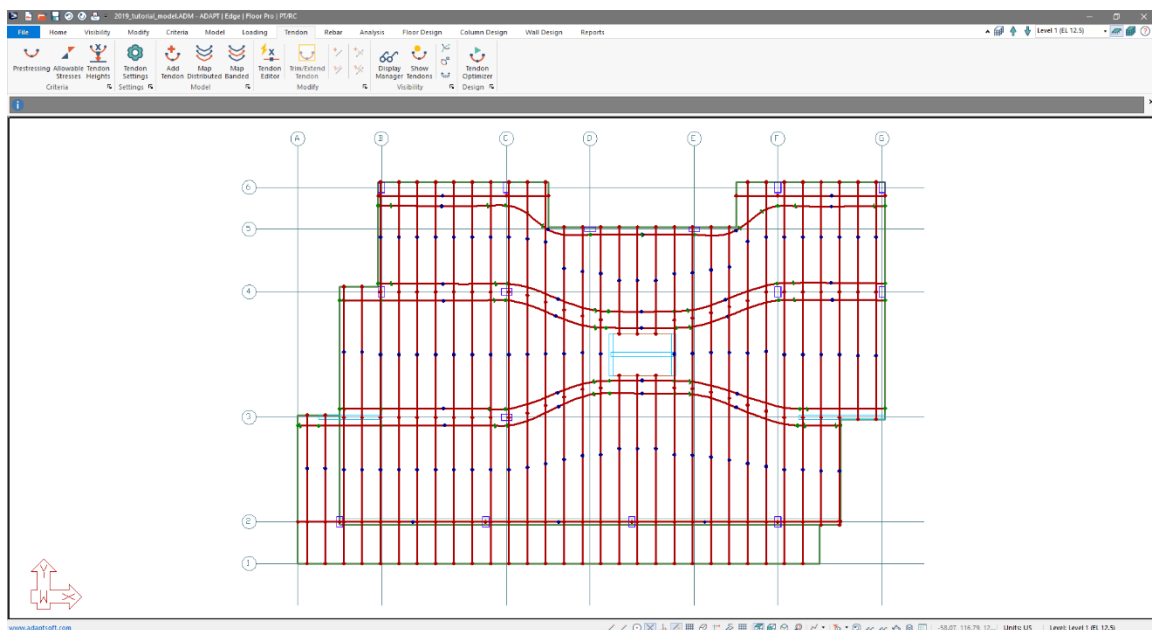

Figure 9-67
- Do this for all the control points on these tendons until the final tendon layout is as shown in **FIGURE 9-67**.